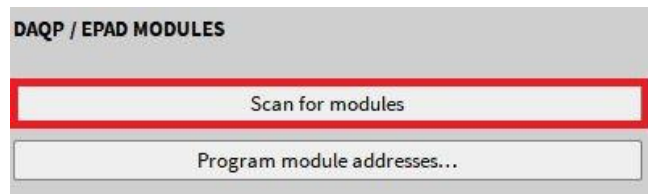

Figure 2-17: Scan for modules button
- Press the *Scan for modules* button (see Figure 2-17). The system will scan the selected Serial Port for any present EPAD2-modules. The status can be seen in the lower right corner of the software